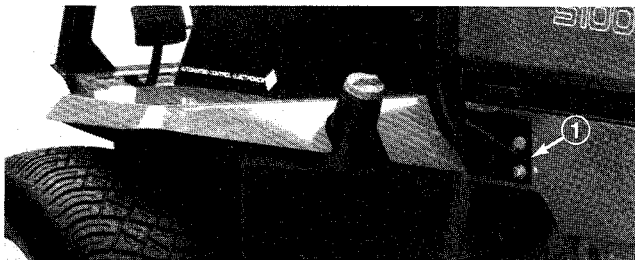

Figure 4
INSTALL ROLL BAR (Fig. 4–5) (Model 03531 only)
2. Secure each side of roll bar to frame with (3) 1/2 x 13 – 1–1/4” lg. capscrews, 1/2” flatwashers and 1/2” lockwashers (Fig. 4).